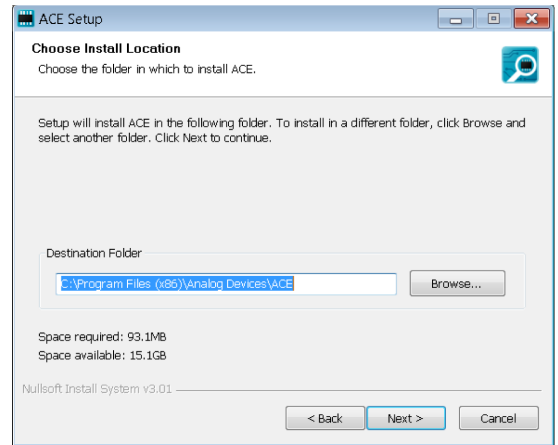

Figure 5. Choose Installation Location
6. Click **Browse...** to choose the installation location, and then click **Next >** (see Figure 5).